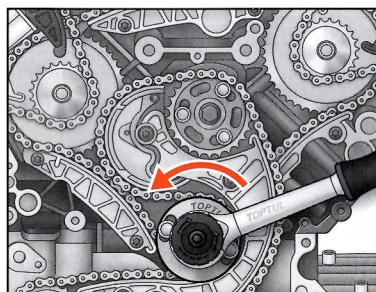

Fig.34
- (3) Using Crankshaft Adjuster (Part No.H) rotate the crankshaft in the direction of rotation to TDC on No.1 cylinder. (Fig.34)